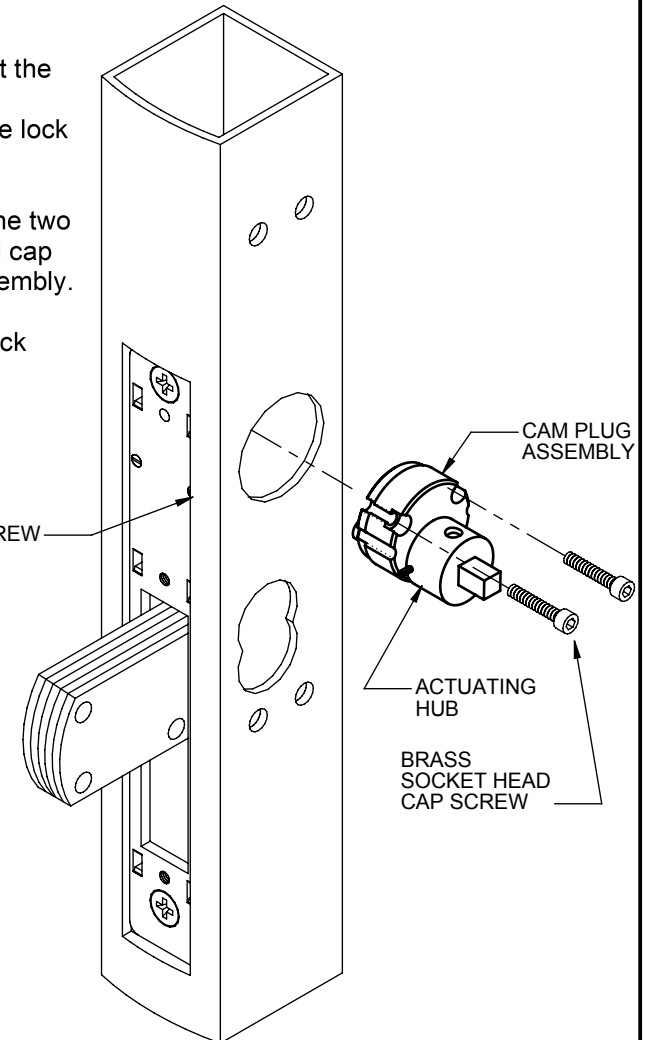

FIG. 3
2. Insert the cam assembly into the lock case (fig. 3).